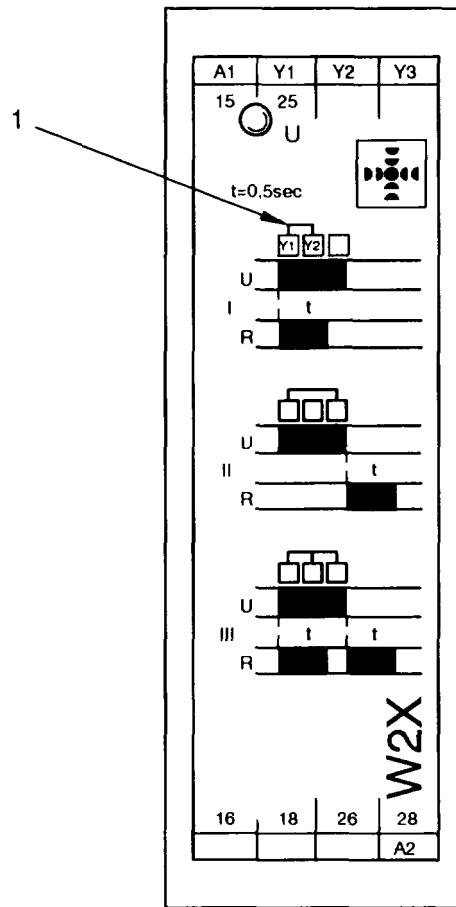

Figure 5-21 Time Relay k17
5. Set time relay (Wipe Relay) K17 (23) to switching time of 0.5 seconds:
- a. Insert jumper Y1-Y2 into lower row of terminal as shown in figure 5-21.